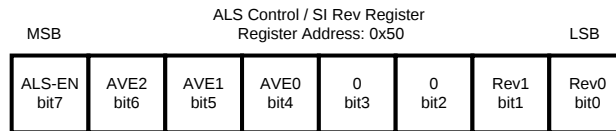
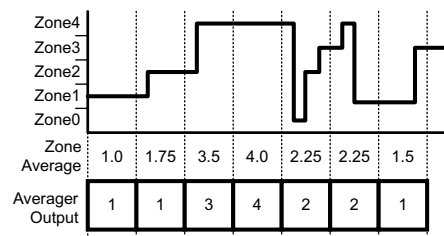

Figure 25. ALS Control / Silicon Revision Register Description
Figure 32. Averager Calculation
The ALS averaging time is the time over which the averager block collects samples from the A/D converter and then averages them to pass to the discriminator block (see Figure 32). Ambient light sensor samples are averaged and then further processed by the discriminator block to provide rejection of noise and transient signals. The averager is configurable with 8 different averaging times to provide varying amounts of noise and transient rejection (see Figure 25). The discriminator block algorithm has a maximum latency of two averaging cycles, therefore the averaging time selection determines the amount of delay that will exist between a steady state change in the ambient light conditions and the associated change of the backlight illumination. For example, the A/D converter samples the ALS inputs at 16 kHz. If the averaging time is set to 800 ms, the averager sends the updated zone information to the discriminator every 800 ms. This zone information contains the average of approximately 12800 samples (800 ms $\times$ 16 kHz). Due to the latency of 2 averaging cycles, when there is a steady-state change in the ambient light, the LED current begins to transition to the appropriate target value after approximately 1600 ms have elapsed.
- The averager always rounds down to the lower zone in the case of a non-integer zone average (1.2 rounds to 1 and 1.75 also rounds to 1). Figure 32 shows an example of how the Averager will make the zone decisions for different ambient conditions.